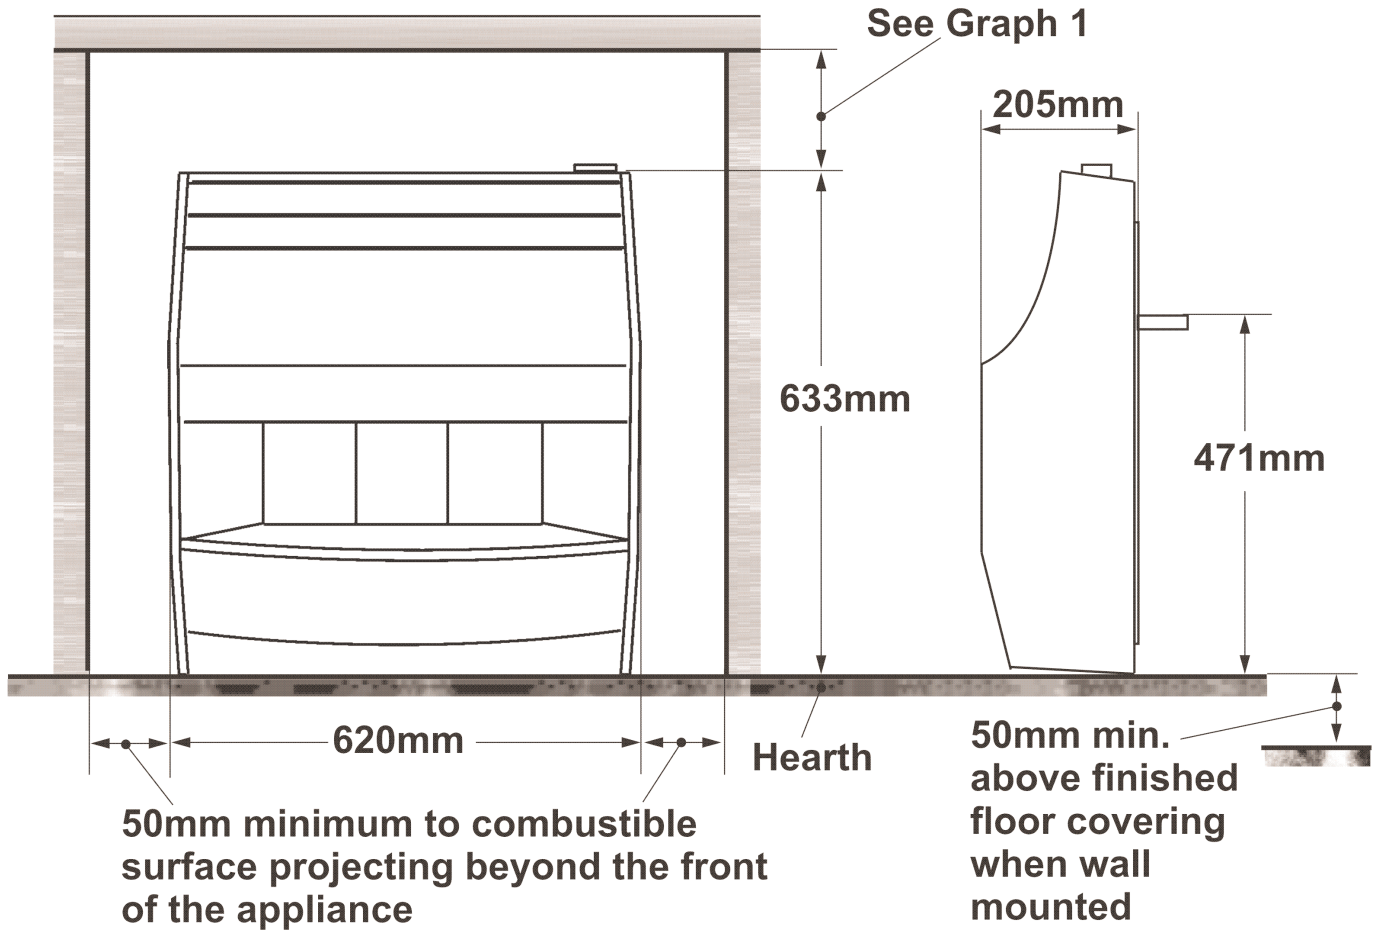

Figure 1 Dimensions & clearances
- Provide a minimum clearance of 50mm between the outer case sides and any corner wall having combustible material or other combustible surface which projects beyond the front of the fire (See figure 1). Please bear this in mind if ever you are considering altering the room.